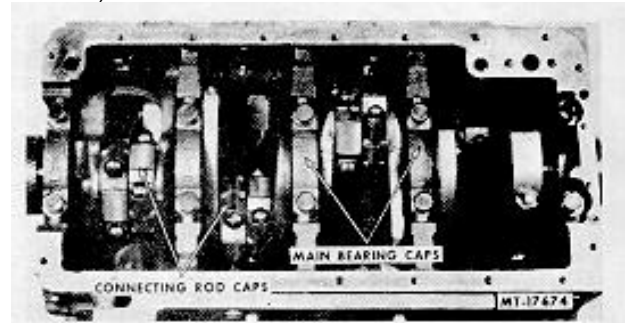

Fig. 55 Positioning Connecting Rods For Removal
56. Rotate the crankshaft to position the journals for removal of the connecting rod assemblies (Fig. 55).